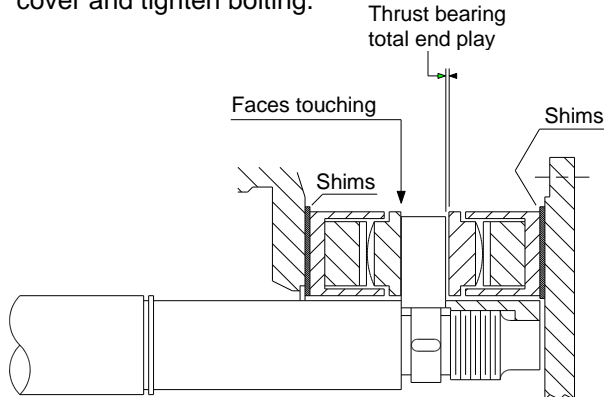

Figure 6-6
- j) Check that the rotor is axially centralized, and establish total thrust end play, (about 0.28 mm) by using shim or machining at inner face of thrust bearing cover. (See figure 6-6)